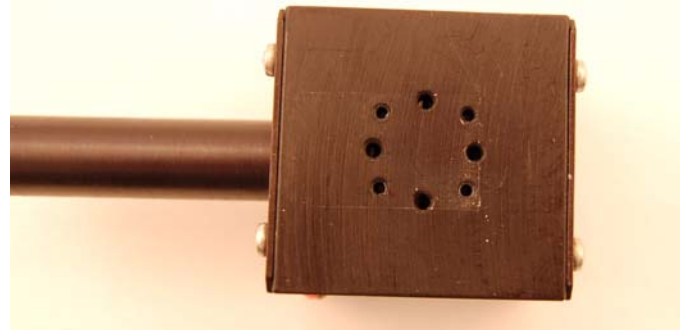

Figure 7: Prepared heat sink with pre-drilled bolt pattern
2. Prepare the heat sink surface by dusting or removing any particulates that have accumulated on the surface. Place the thermal pad on the heat sink with pre-drilled holes matching the hole pattern on the core board of the device (Figures 7 and 8).